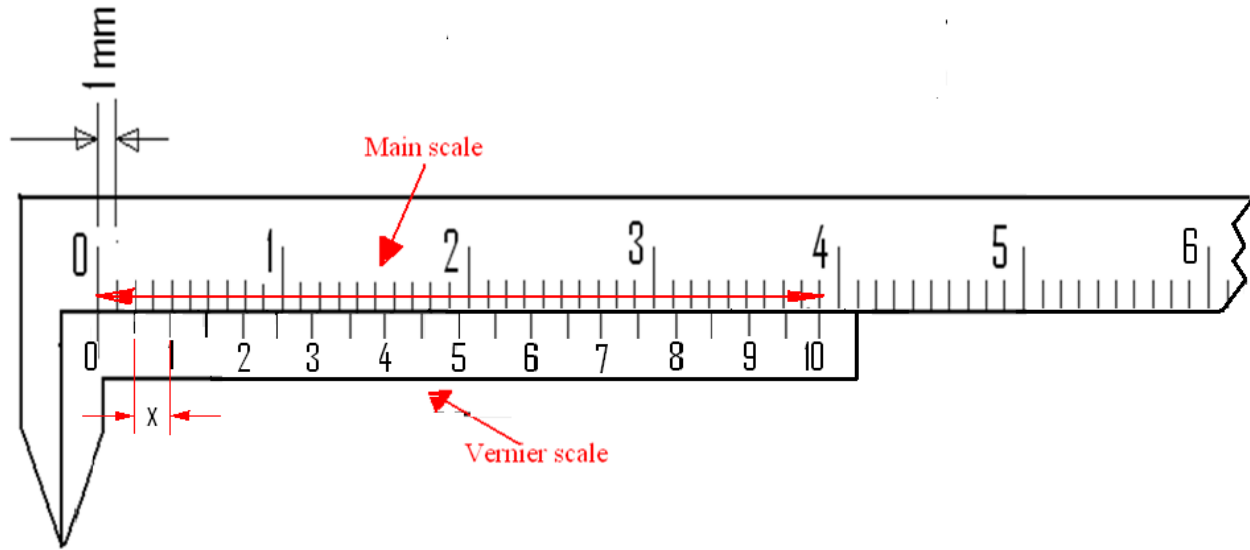

Figure 1: A slide calipers when its two jaws touch each other.
1. Put the loop at one end of the rope round the peg (Figure 1 a) on the axle and a load of mass $M=800$ gm at other end.
2. Hold the flywheel in such a way that the load is about to be detached from the peg (figure 1 b). Then keep a straight meter scale at the bottom surface of the load, see where on the wall the end of the meter scale touches and put a mark over there. Next rotate the flywheel for a certain number of times (say for 6 times). It is the value of n_1 . Write it down in the Table 1 of data sheet. The load moves upward. Again keep a straight meter scale at the bottom surface of the load, see where on the wall the end of the meter scale touches and put a mark over there. The separation between the two marks is h . Measure h by using a meter scale. Write it down in the Table 1 of data sheet.
Figure 1 shows you the magnified view of the slide calipers what you are using in the laboratory. When the two jaws touch each other the 0 mark of main scale coincides the 0 mark of the Vernier scale, if the slide calipers is free from mechanical error.